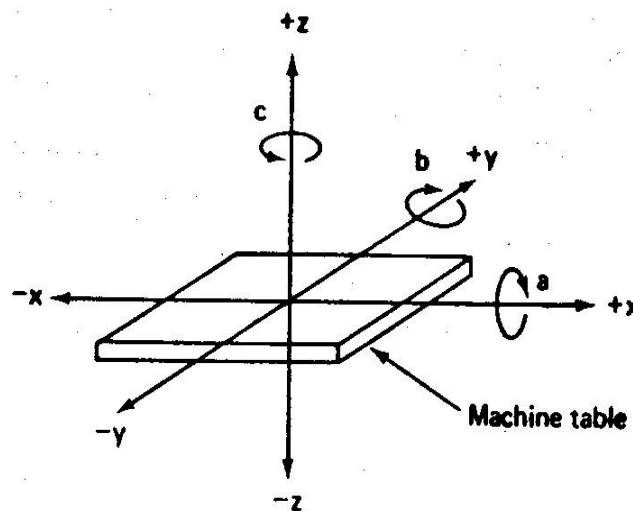

FIGURE 8.2 Machine tool coordinate system for NC.
- ♦ The two axes x and y are defined in the plane of the table and the Z-axis is perpendicular to this plane and movement in the z direction is controlled by the vertical motion of the spindle as shown in the figure 8.2.